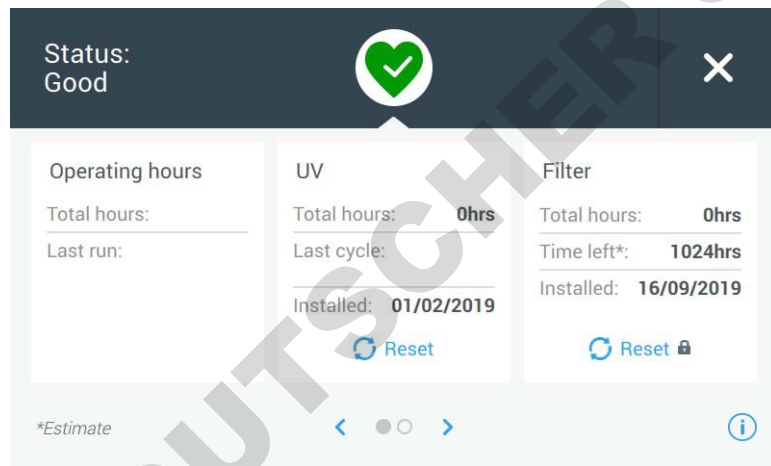
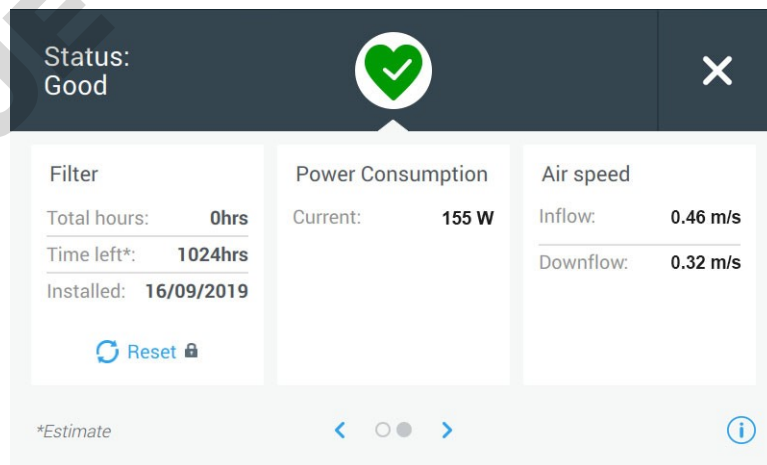

Figure 66 “Status Good” Screen #2: Operating Hours, UV and Filter (EU Version)
Figure 67 “Status Good” Screen #2: Filter, Power Consumption and Air Speed
3. Swipe the screen to the left or tap the right blue chevron in the navigation area at the bottom center to display the second suite of status data, shown for the EU version in Figure 66 and for the US version of the device in Figure 67 below.